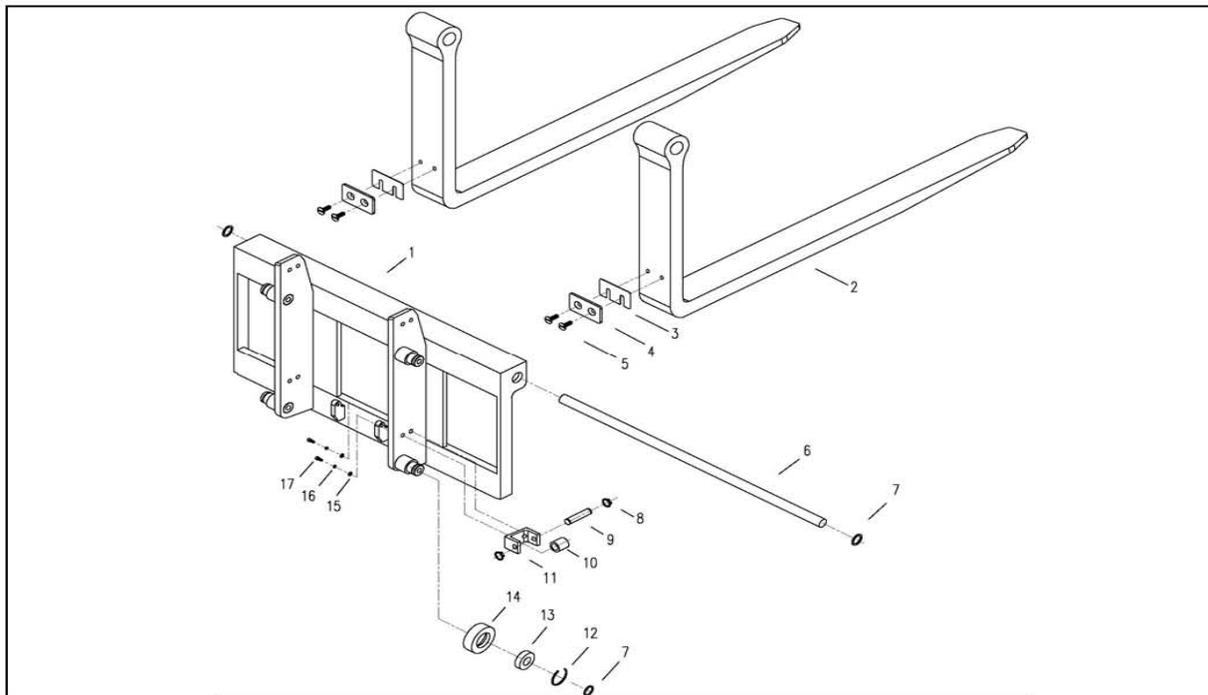
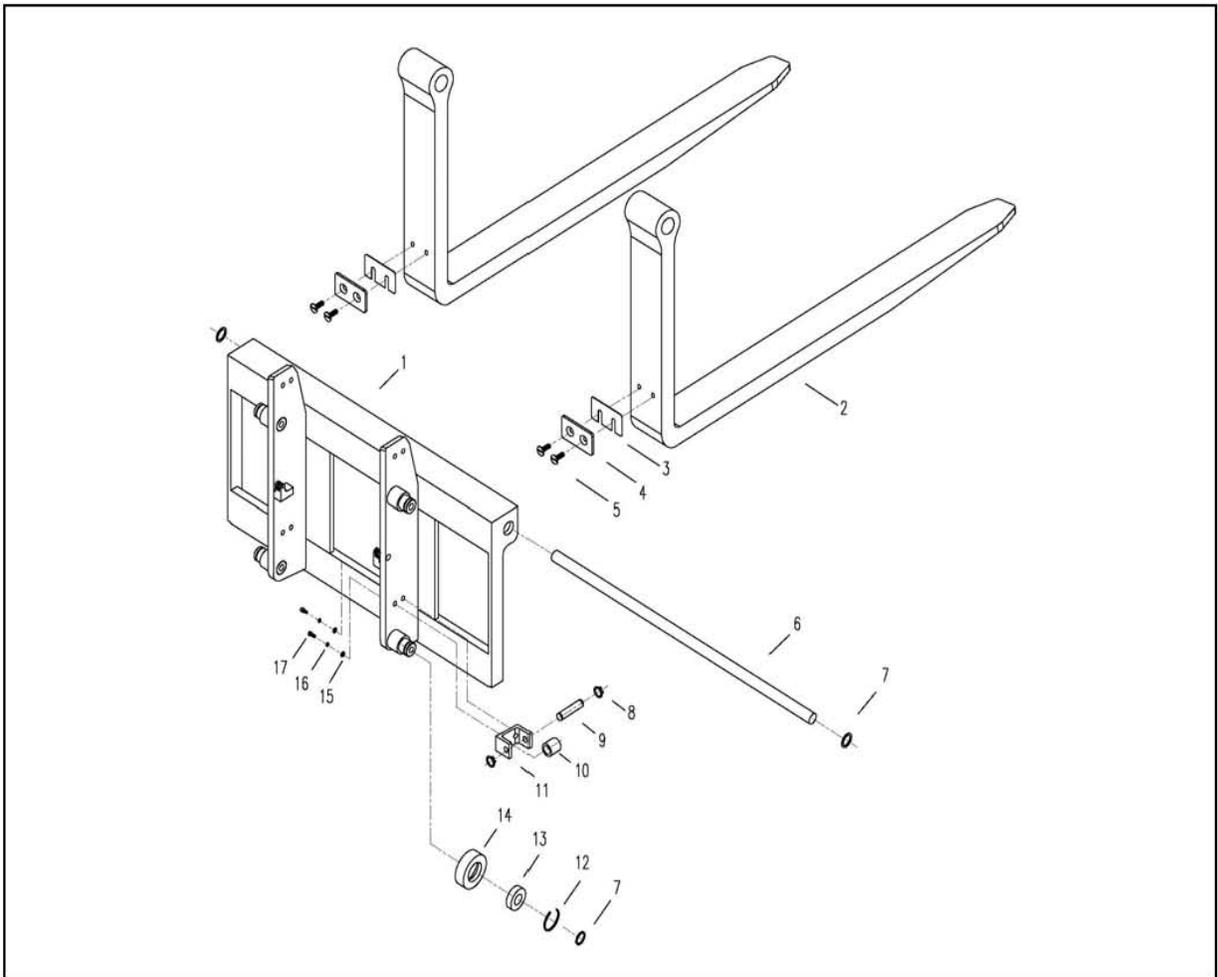

Figure 5-3. Lift Carriage (63 Inch Lift)
Figure 5-4. Lift Carriage (98 and 118 Inch Lift)
2. Remove snap ring. (7, Figure 5-3 or Figure 5-4)
3. While supporting the forks (2), remove shaft (5).
4. Remove bolts (5), wear plates (4) and shims (5).
1. Install wear plates (4, Figure 5-3 or Figure 5-4), shims (5) and bolts (5).
2. Position the forks (2) in carriage (1).
3. Install shaft (5) through carriage (1) while aligning the mounting holes of forks (2).
4. Install snap ring (7).
5. If necessary, adjust the amount of shims (5) the align the forks.
4. Remove snap ring (8, Figure 5-3), axle (9) and guide wheel (10) from bracket (11).
5. Remove snap ring (7) and roller (14) from carriage (1).
6. Remove snap ring (12) and bearing (13 from roller (14).
6. Remove snap ring (8, Figure 5-4), axle (9) and guide wheel (10) from bracket (11).
7. Remove snap ring (7) and roller (14) from carriage (1).
8. Remove snap ring (12) and bearing (13) from roller (14).